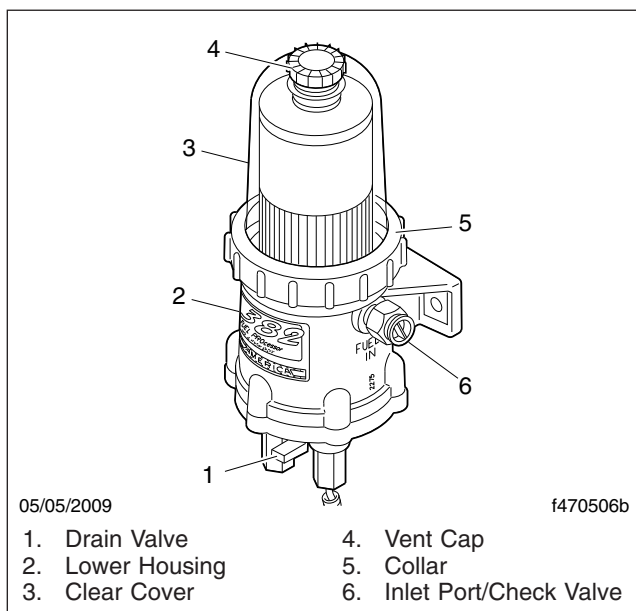

Fig. 21.2, DAVCO Fuel/Water Separator (Fuel Pro 382 shown)
- Remove the vent cap (Fig. 21.2, Item 4) and open the drain valve (Fig. 21.2, Item 1). Drain the fuel to just below the collar level, then close the drain valve.